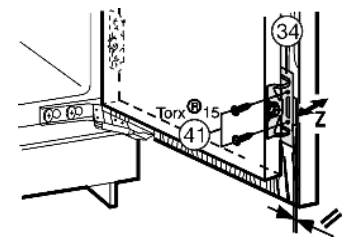

Fig. 28
Mounting bracket: Fig. 28 (34) Ensure that both metal edges are flush (symbol //):
- ▶ Screw the appliance door to the unit door with screws Fig. 28 (41) passed through the mounting brackets Fig. 28 (34).